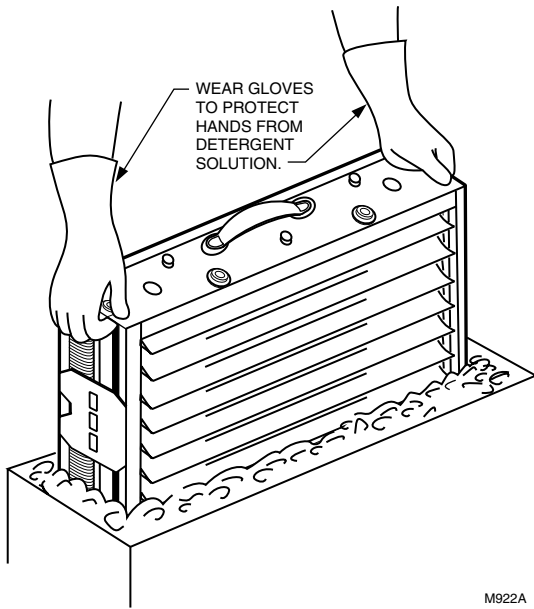

Fig. 12. Agitate the cells in the water.
- ☐ Soak the cells in the solution for up to 15 minutes; agitate the cells up and down. See Fig. 12.